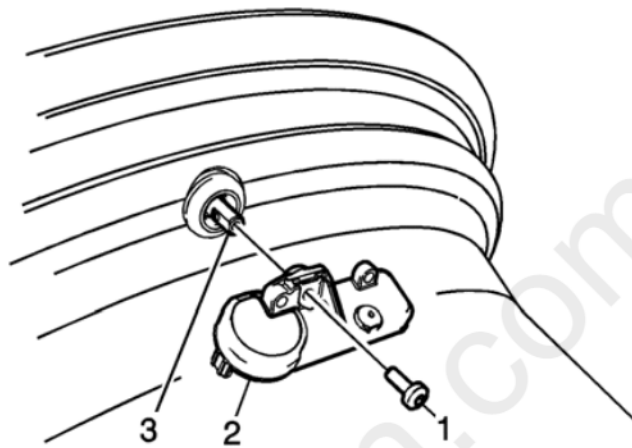

Fig. 1: Exploded View Of Tire Pressure Sensor
3. Remove TORX screw from the tire pressure sensor. See Fig. 1.